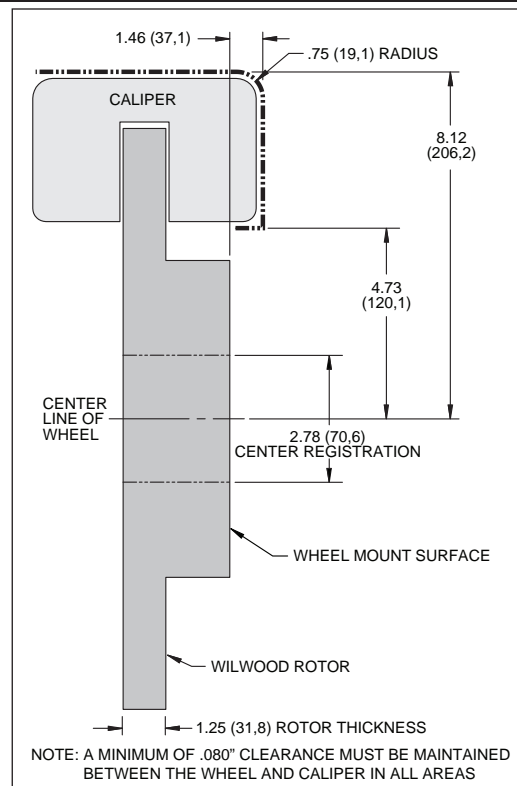

Figure 2. Wheel Clearance Diagram
- This kit will fit most 18" and larger wheels, please refer to wheel clearance diagram (Figure 2, page 3) for your specific requirements. For ALL other wheels, consult the wheel clearance diagram (Figure 2, page 3) to determine compatibility. Parts that have been installed may not be returned or exchanged.
• Make sure this is the correct kit to fit the exact make and model year of your axle and wheels. This kit is designed for direct bolt-on installation to 1997 through 2013 model year Chevrolet C5 and C6 Corvette hubs, but requires minimum of 18" diameter wheels. Check wheel clearance diagram, Figure 2.
• Verify your wheel clearance using Figure 2.